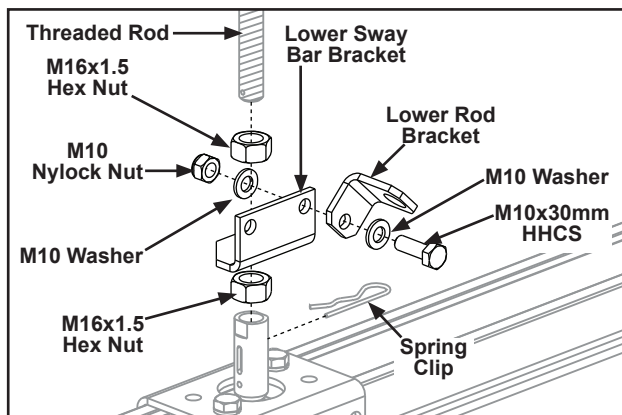

Figure 3-48
- Step 2. Insert end of threaded rod through M16x1.5 hex nut, lower sway bar bracket, and M16x1.5 hex nut into the female swivel. See Figure 3-48.